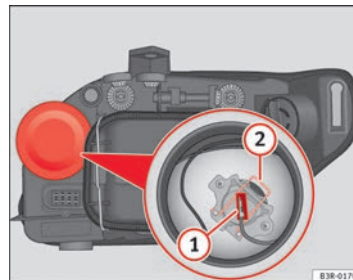

Fig. 209 Main beam headlights
- Remove the connector ⇒ Fig. 209 **1** from the bulb.
- Press the spring ⇒ Fig. 209 **2** inwards and to the right.